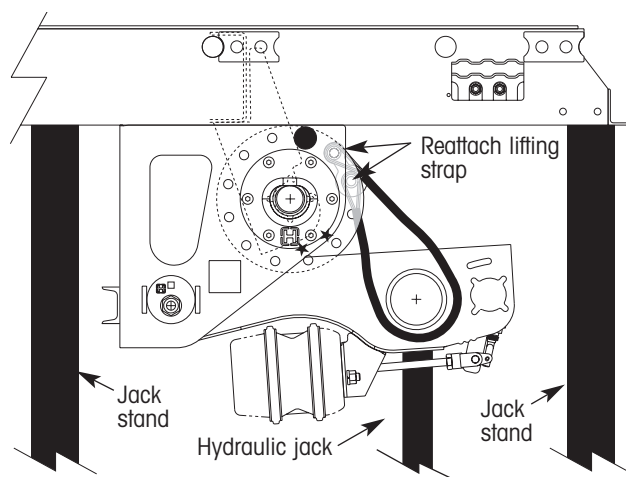

Figure 25. Reattach lifting straps in highest pair of holes
7. Temporarily reattach the lifting straps in the highest pair of flange plate holes that can be reached by the straps (figure 25).